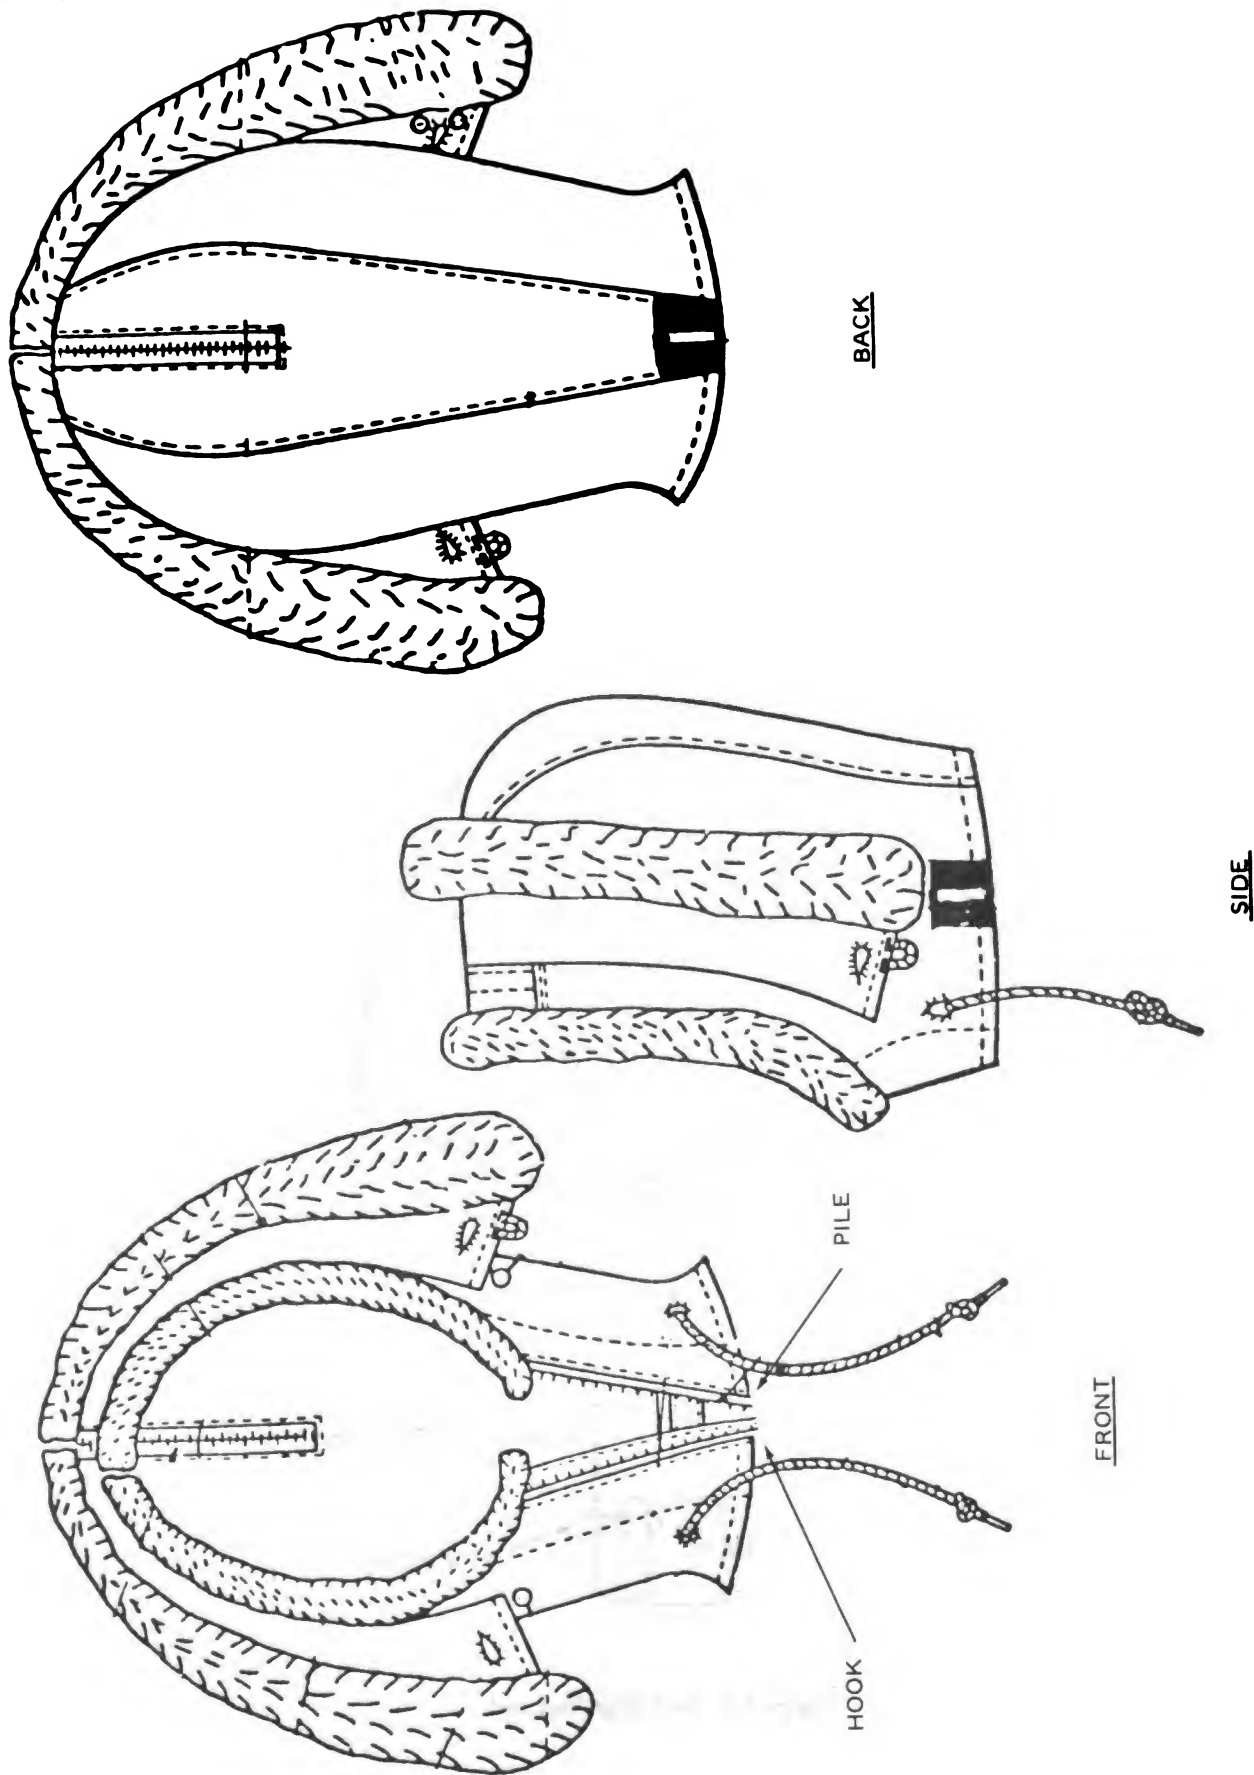

Figure 4-5. Finish Hood
- e. Use fastener tape from operation (b) for front closure. Place the hook on the flap at right side and pile on left inside and stitch on all four sides of each piece. (See figure 4-5, front view.)
- g. Place one piece of leather on the inside of the center panel flush with the bottom edge and stitch on all four sides. On the inside right and left side front $3\frac{1}{2}$ inches from the joining center panel seam, place a piece of leather and stitch on all four sides. (See figure 4-5.)
- h. On the outside of the hood, place the other three pieces, one at each location on top at the stitch marks and stitch thru all pieces $\frac{1}{8}$ inch from the edge and $\frac{1}{4}$ inch in. (See figure 4-5.)
- i. Make a 1 inch cut in the leather for the button. (See figure 4-5.)